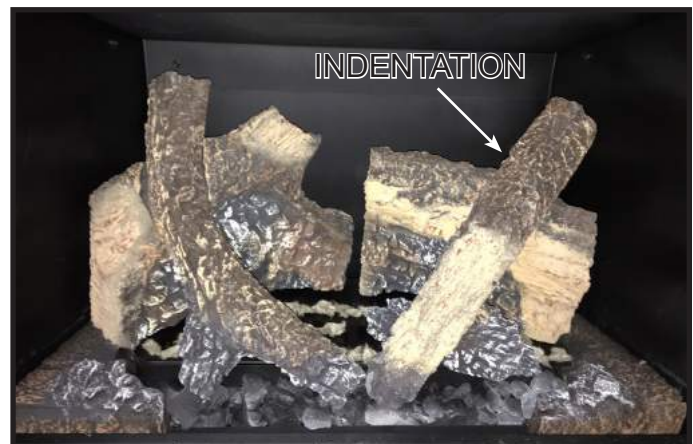

Figure 9. Top Right Log Installed - Log Set Complete
6. Remove top right log from packaging. There are indentations located in the right rear log and small burner log to locate the log. Place log into indentations as shown in Figure 8 and Figure 9.